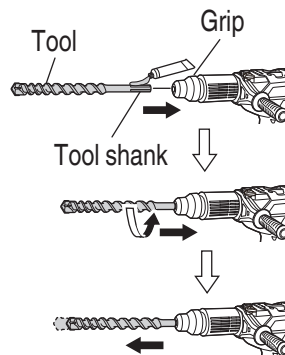

Fig. 6
- (1) Clean, then smear the tool shank with the grease provided in the green tube.
- (2) To attach the tool (SDS max shank), insert it into the hole until it contacts the innermost end of the hole as illustrated in **Fig. 6**.